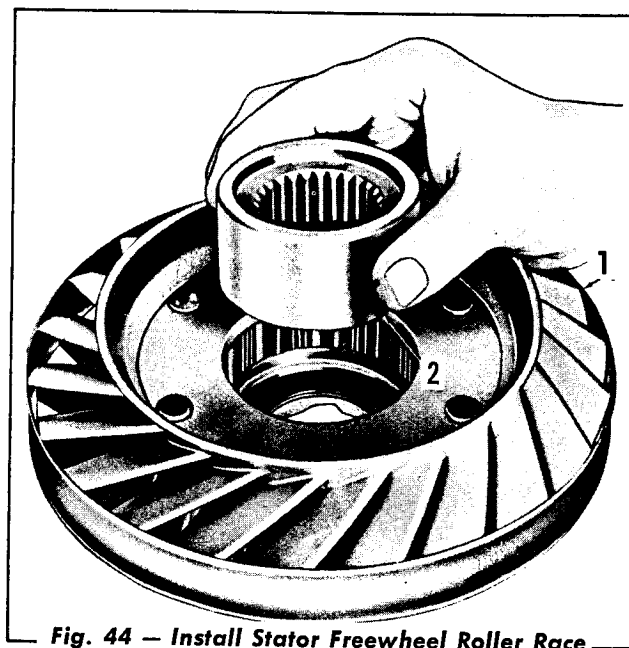

Fig. 44 - Install Stator Freewheel Roller Race
8. Position the stator assembly (Fig. 44) with the flat side down and install the freewheel roller race with the recess up.